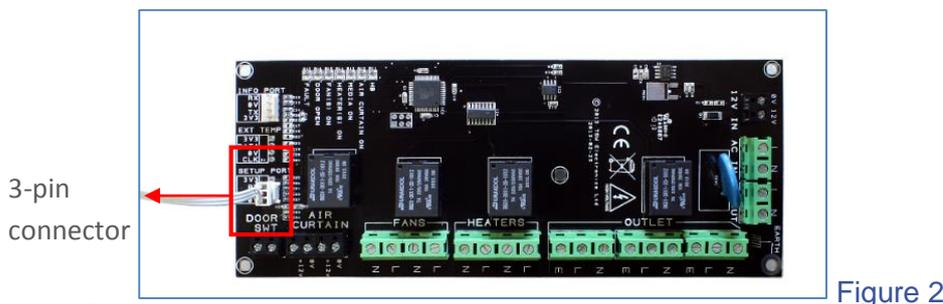

Figure 2
Step 6: Connect the USB cable into your computer, and then the 3-pin internal connection to the setup port (highlighted red) on the controller board (figure 2).